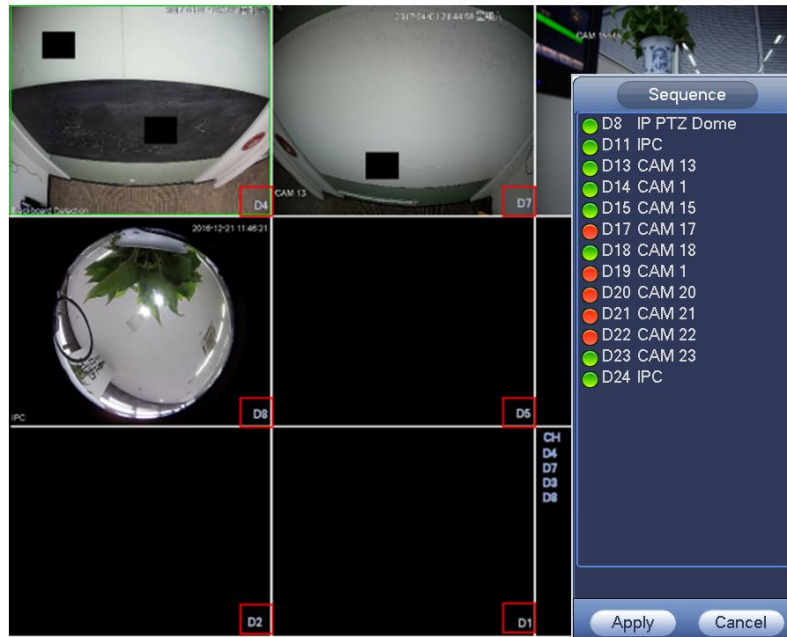

Figure 4-67
- Check the channel number at the right bottom corner to view the current channel sequence. See Figure 4-67.